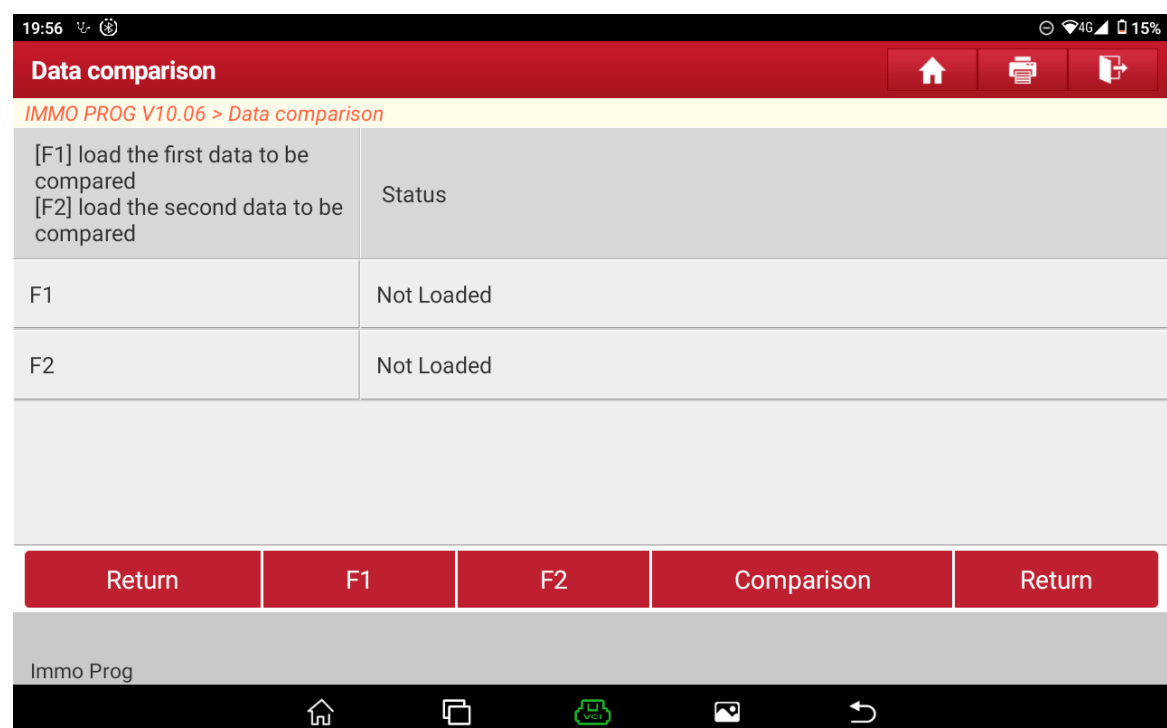

Figure 18
11. Click [Data comparison] to access the data comparison page, as shown in Figure 18.